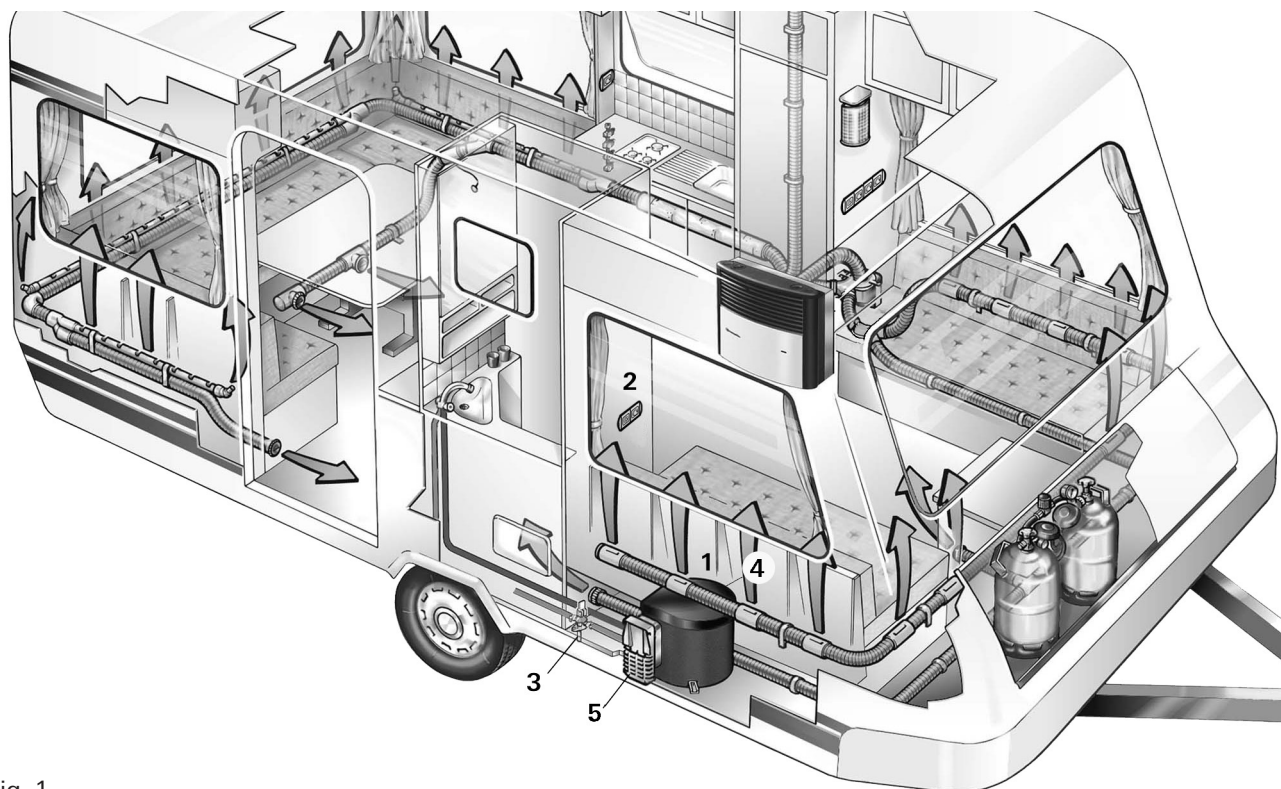

Fig. 1
- Failure to operate the P&T relief valve (Fig. 1- 4) at least once every six months may result in the water heater splitting. Continuous leakage of water from the valve may indicate a problem with the water heater!